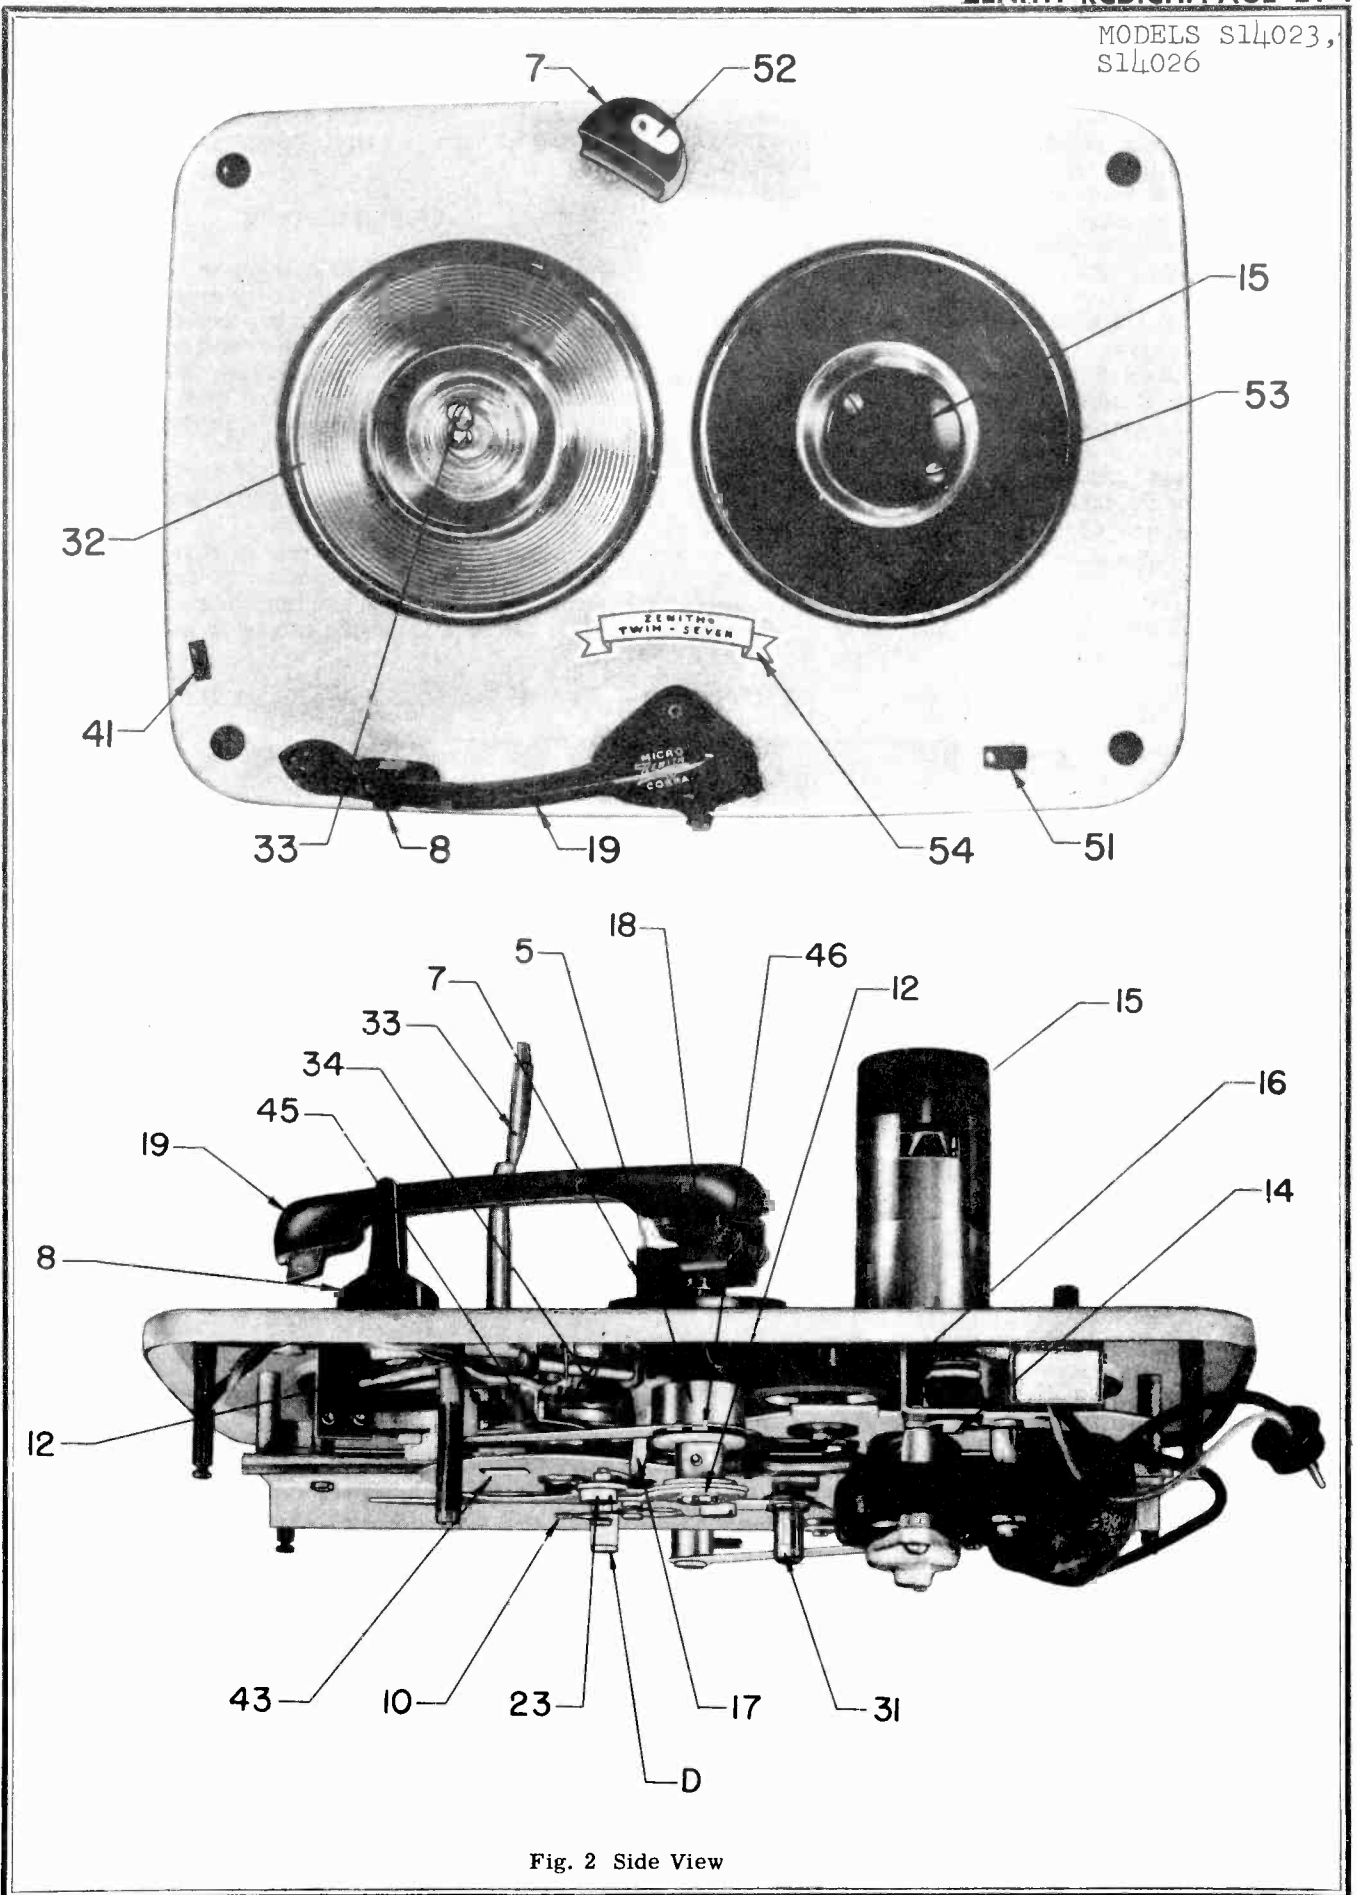
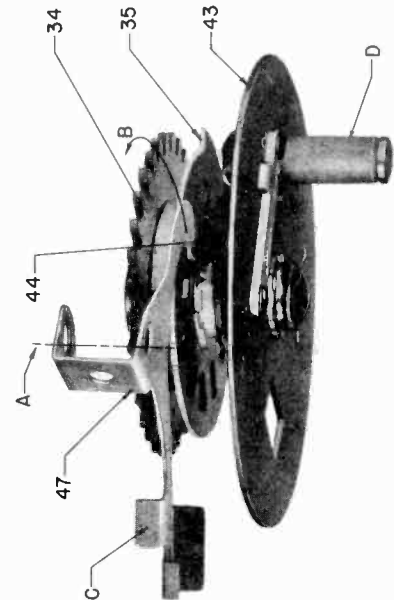
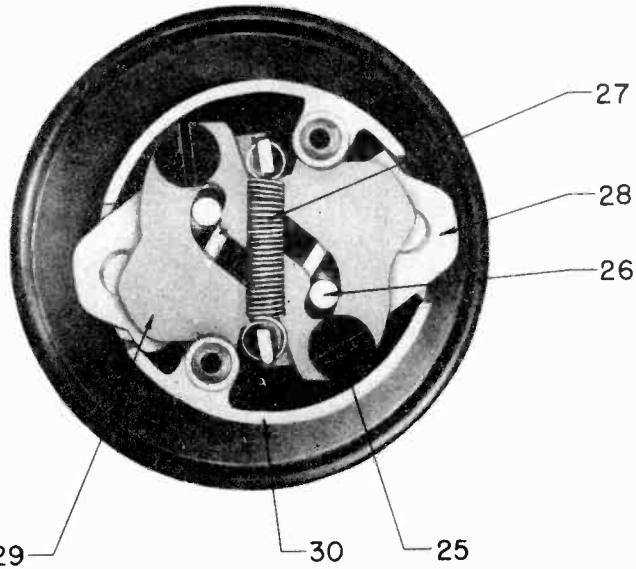

Fig. 2 Side View
Fig. 4 Clutch Assembly with Pawl (44) Disengaged
Fig. 8 45 RPM Spindle Assembly
weight (5) carries the trip actuator and stud assembly (45) in towards trip lever (47) (See Fig. 2). When the nylon stud on (45) contacts surface (C) on trip lever (47), the entire trip lever is rotated (direction B) around axis (A). This swings trip actuator in (direction B) and allows pawl (44) to rise and engage the upper clutch plate assembly (35). (See Figs. 4 & 5) The upper clutch plate assembly (35) is continually rotating and this places the changer in cycle.
When the clutch pawl (44) mechanically connects the upper clutch assembly to the lower clutch assembly, the entire clutch assembly rotates. As the lower clutch plate assembly (43) rotates, the nylon bushing (D) contacts the throwout cam and lever assembly (21) thus moving the tone arm from the record finish position to a position over the tone arm captivator. (See Figs. 2 & 3) As the lower clutch assembly continues to rotate, the nylon bushing (D) contacts the inside surface of throwout cam and lever assembly thus returning the tone arm to record start position. Simultaneously the bushing (D) on the lower clutch assembly (43) contacts the ejector cam assembly (31) and a new record is dropped on the turntable. This actuates the 33  $1/3$  RPM ejector cam and at the same time actuates the ejector mechanism on the 45 RPM spindle. The ejector shaft and plate assembly (26) in the 45 RPM spindle rotates (See Fig. 8) automatically inserting record separators (29) between the bottom record and the record stack and then retracts the record supports (28) from beneath the last record, dropping this record. The record ejector shaft (26) turns again placing the record supports (28) out under the record stack and the record separators (29) retract, thus lowering the record stack on the record support plates. At the same time the eccentric shaped lower clutch assembly (43) actuates the tone arm lift lever and pin assembly (17) thus raising and lowering the tone arm in the proper sequence.
The manual trip with the brass spring should be adjusted so there will be 1/8" clearance between the spring and surface (C) on trip lever (47). (See Fig. 4) There should also be .020 to .040 clearance between trip lever (47) and the top surface of the lower plate of the lower clutch assembly (43).